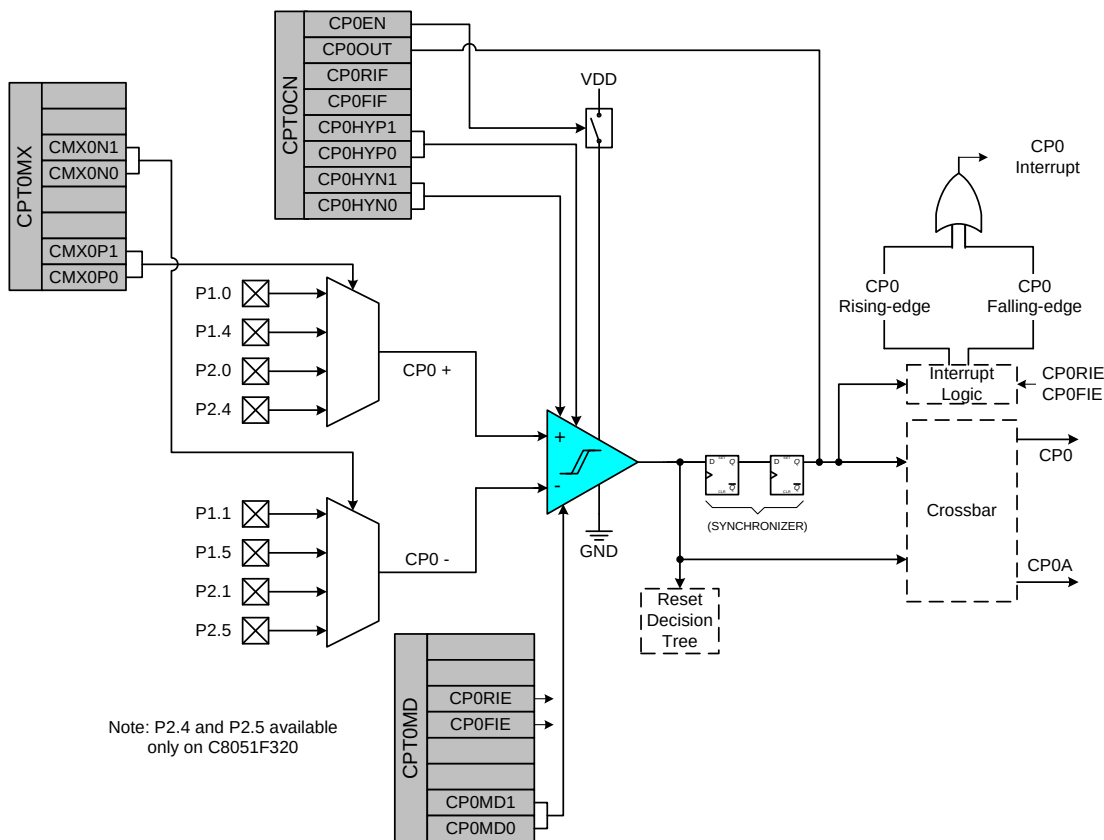
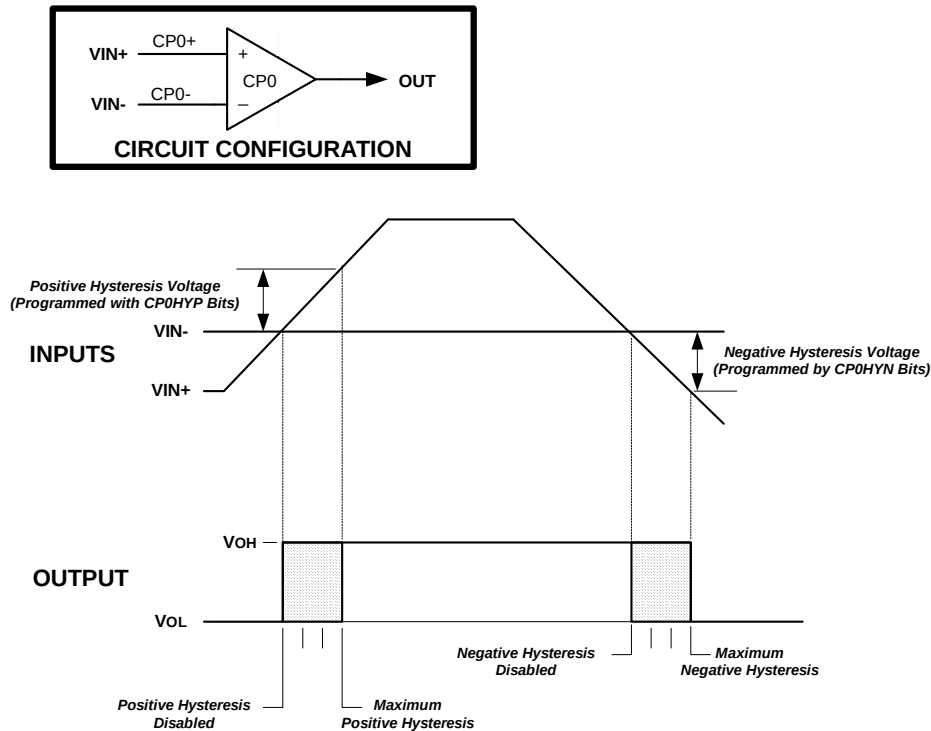

Figure 7.1. Comparator0 Functional Block Diagram
Figure 7.3. Comparator Hysteresis Plot
C8051F320/1 devices include two on-chip programmable voltage Comparators: Comparator0 is shown in Figure 7.1; Comparator1 is shown in Figure 7.2. The two Comparators operate identically with the following exceptions: (1) Their input selections differ as shown in Figure 7.1 and Figure 7.2; (2) Comparator0 can be used as a reset source.
Comparator response time may be configured in software via the CPTnMD registers (see Figure 7.3 and Figure 7.6). Selecting a longer response time reduces the Comparator supply current. See Table 7.1 for complete timing and supply current specifications.
Comparator hysteresis is programmed using Bits3–0 in the Comparator Control Register CPTnCN (shown in Figure 7.1 and Figure 7.4). The amount of negative hysteresis voltage is determined by the settings of the CPnHYN bits. As shown in Figure 7.3, settings of 20, 10 or 5 mV of negative hysteresis can be programmed, or negative hysteresis can be disabled. In a similar way, the amount of positive hysteresis is determined by the setting the CPnHYP bits.